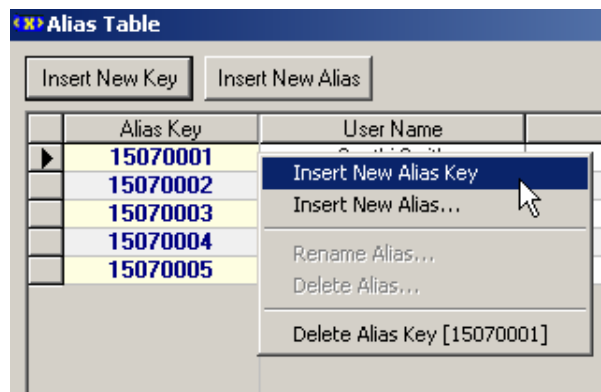

Figure 9.18. Creating an Alias Key
1. Right-click a column and select **Insert New Alias Key** from the pop-up menu, as shown in **Figure 9.18**.